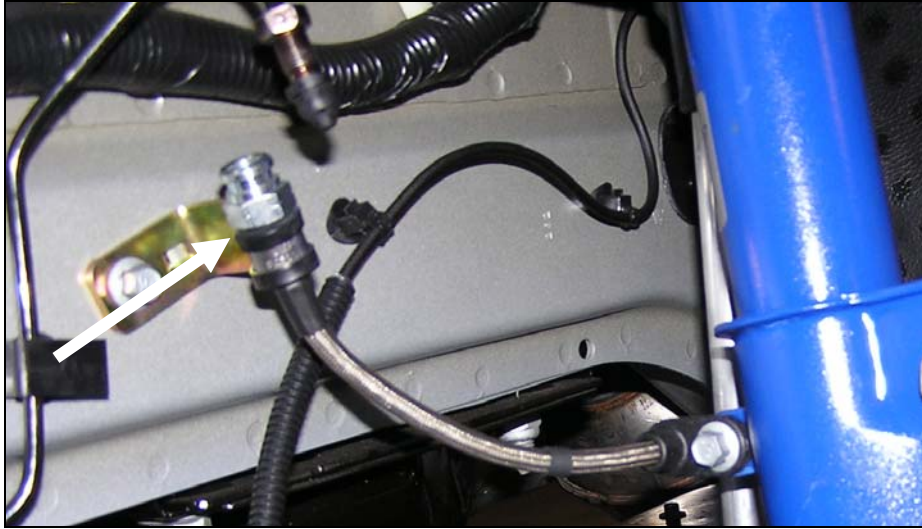

Figure 18
5. Bolt the hose to the hose bracket with a Brake Line Bracket Bolt. Refer to Figure 18. Tighten using a 3mm driver to 2.5 Nm (22 lb-in).